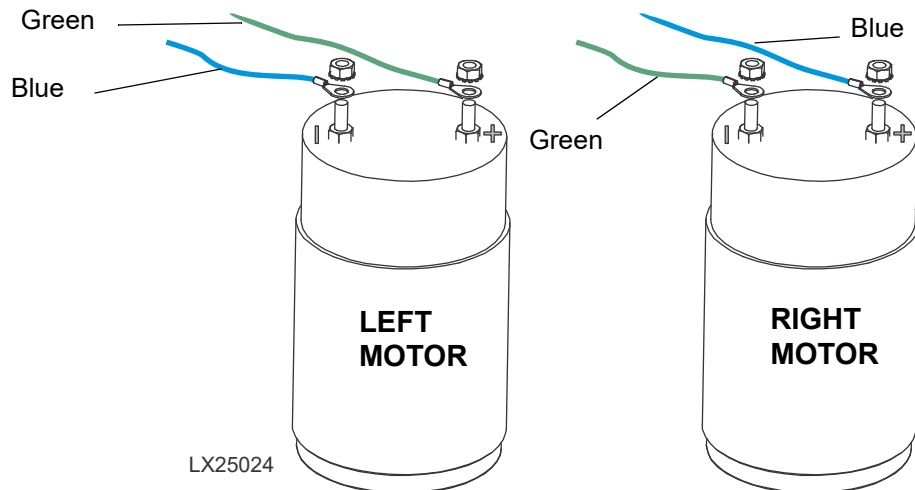

FIG. 2-18
- d. Place the wire ring terminals over the motor studs as shown in Fig. 2-18.
See Figure 2-18.